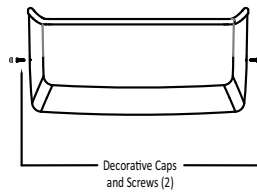

Figure 12
- Remove the two (2) decorative caps and screws on the bottom sides of the cabinet and lift the cabinet off the metal brackets and set it aside. See Figures 12 & 12a